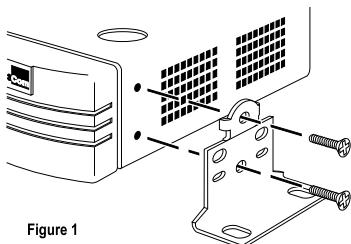

Figure 1
- Locate a mounting bracket over the mounting holes on one side of the unit, as shown in figure 1 below.